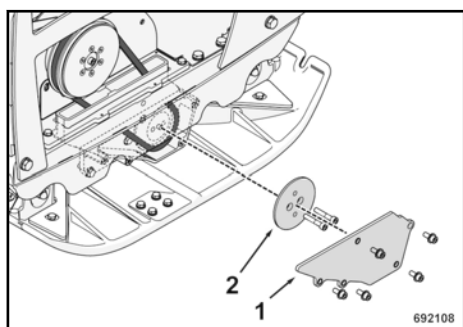

Fig. 51
Remove the safety cover (1) ↪ Fig. 51.